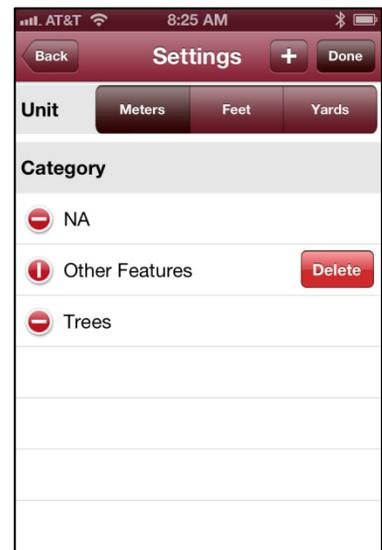

Figure 16
5. Tap the **Done** button in the upper right-hand corner (Figure 16). The deleted category will no longer appear in the Category List.